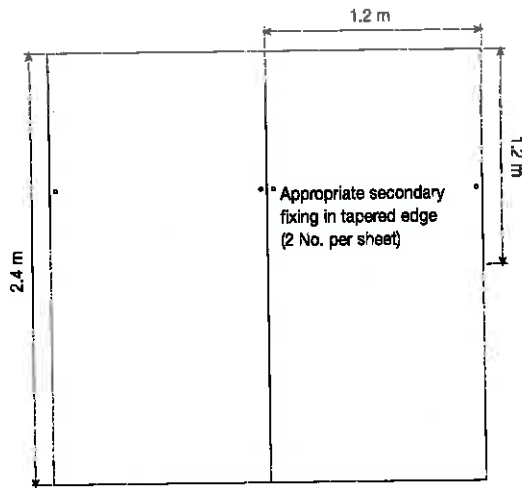

Figure 6 Appropriate secondary fixing pattern for acrylic sealant / PU foam adhesive bonding
- These are normally applied at a rate of 2 No. per sheet, 15 mm in from the edge of the sheet, after the adhesive has set (see fig 6).